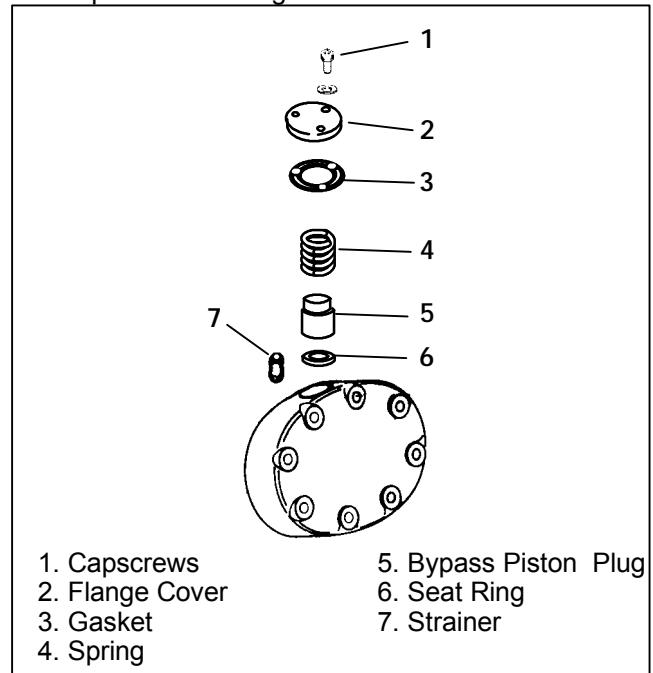

Figure 2-1. Removal of Piston Plug
- a. Remove the three socket head capscrews holding piston plug to cylinder head of the replacement compressor. See Figure 2-1.